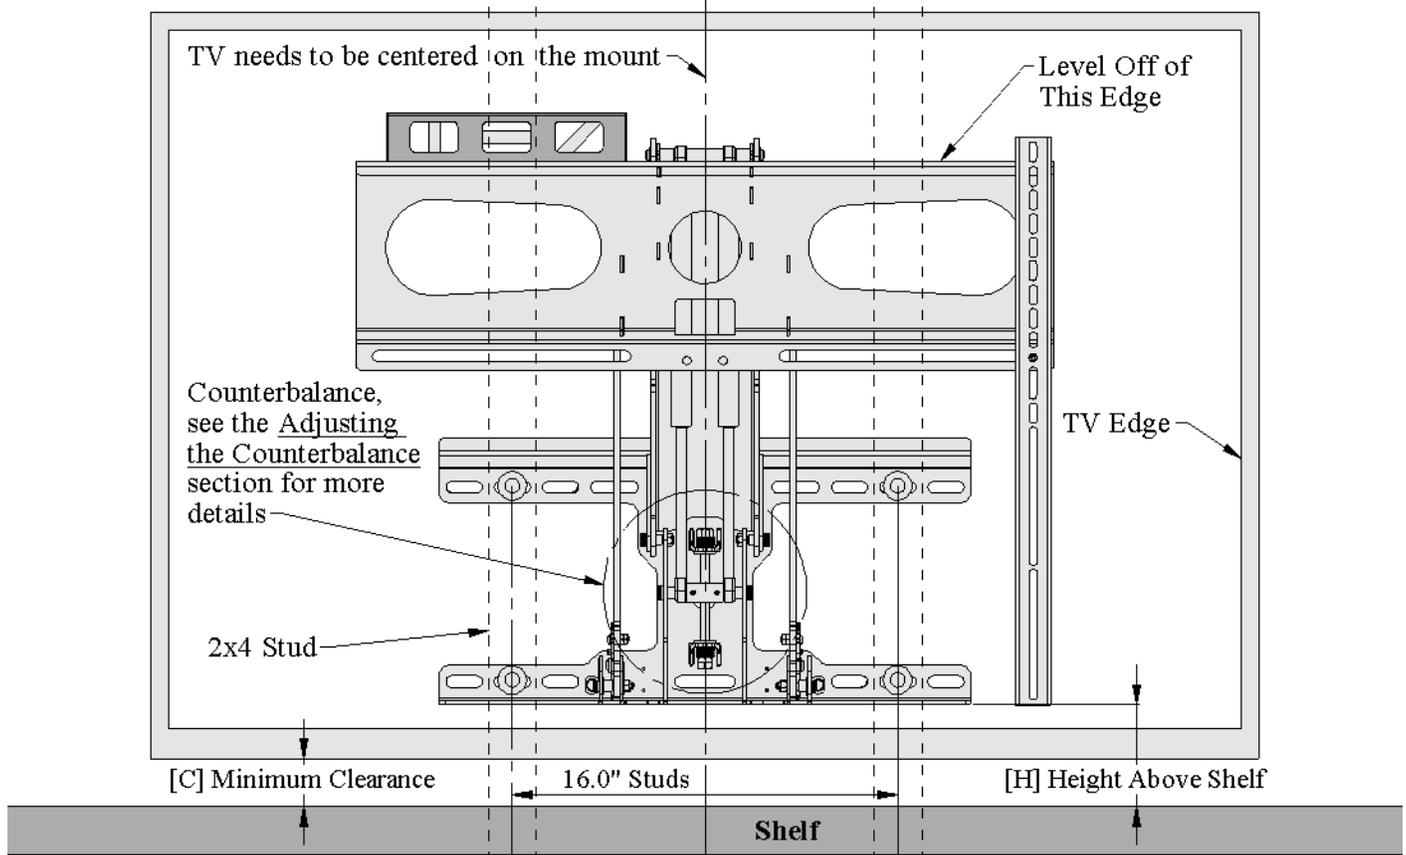

Figure 6, Positioning Mount on the Wall
- **The TV isn't level in all positions.** When attaching to the wall, level off of the Hook Plate Edge, NOT the plate that attaches to the wall, see Figure 6 on page 5.
7. Level the mount as shown in Figure 6.
The TV Clearance Table shows the minimum clearance [C] needed between the shelf top and the bottom of the TV (or the bottom of an attached speaker, whichever is lower) for the mount to swing around the shelf. To find the clearance needed, find the shelf depth [D], in this example 8", and go down the column and find the corresponding minimum clearance height [C], which is 2.5". Figure 6 shows where to measure [C] and [H].
Detail from **Figure 6**